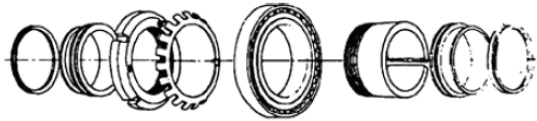

Figure 3a
- Slide second V-ring seal onto shaft making sure lip is toward the bearing. NOTE: Do not install V-ring seal on seal ring at this time (Figure 3a).